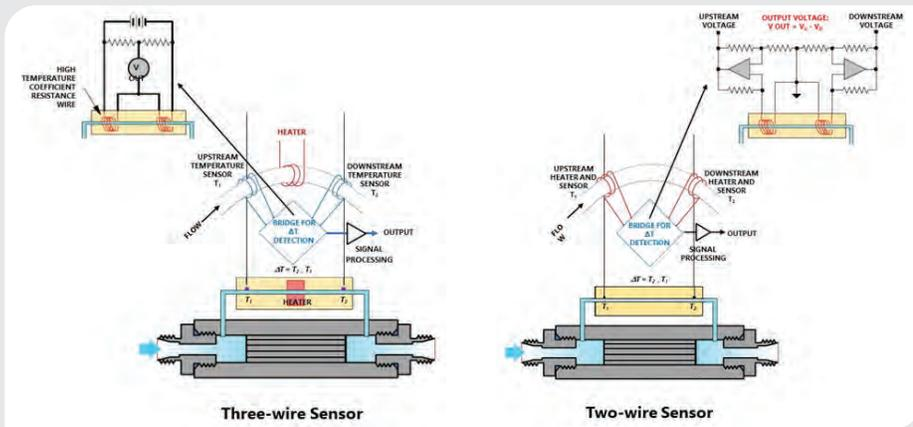
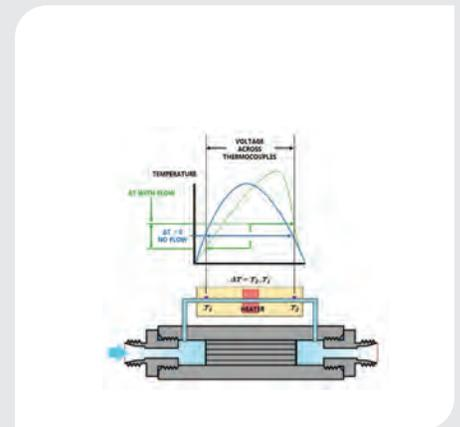

Figure 3. Thermal Mass Flow Meter sensor configurations.
Figure 4. Basic principles of thermal MFM measurements.
Unlike rotameters, thermal mass flow meters (MFMs) and controllers (MFCs) generate an electronic signal that can be used in process automation schemes. For this reason, they can be found in many industrial and most high technology environments that require precise process control. MFMs and MFCs employ thermodynamic principles to derive mass flow rates. Figure 3 illustrates the underlying measurement principle that is used by a thermal mass flow meter. The sensor is mounted on a side stream that takes a known ratio of the gas flow passing through the MFM. In a three-wire sensor configuration, the MFM uses high temperature coefficient of resistance wires as sensors to measure the temperature differential ($\Delta T = T_2 - T_1$), across a heater mounted on the side stream as shown in Figure 4. This temperature differential is directly proportional to the mass flow rate, obeying the relationship:
sensor MFM, which is a more common configuration, employs high temperature coefficient of resistance wires as both sensor and heater, as shown on the right in Figure 4. In this configuration, circuitry adjusts the power to the heater coils to maintain a constant temperature differential between the two coils. As with the three-wire MFM, Equation (4) and the splitting ratio are used to determine the mass flow through the instrument.